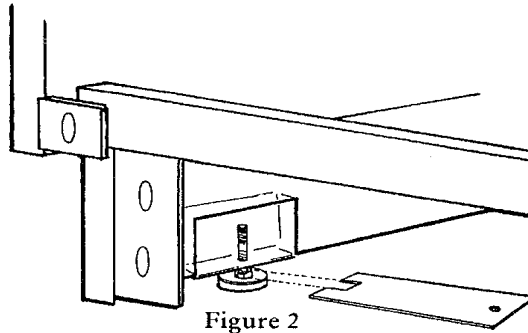

Figure 2
- Level cases using wrench provided. See Figure 2 below.